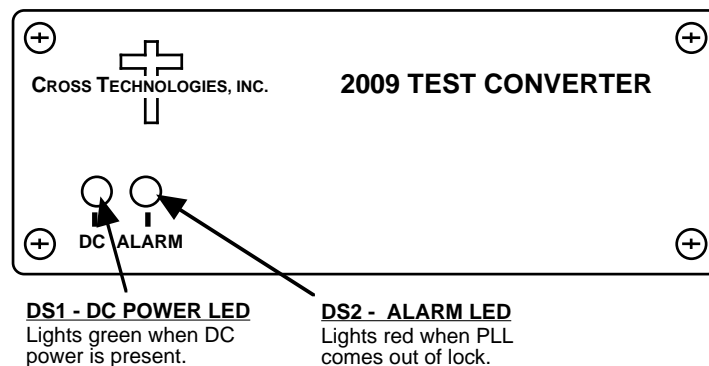

FIGURE 2.2 Model 2009-72P-79P Front Panel Indicators
Figure 2.2 shows front panel indicators.
4. Be sure DS1 (green, DC Power) is on and DS2 (red, Alarm) is off (Figure 2.2).